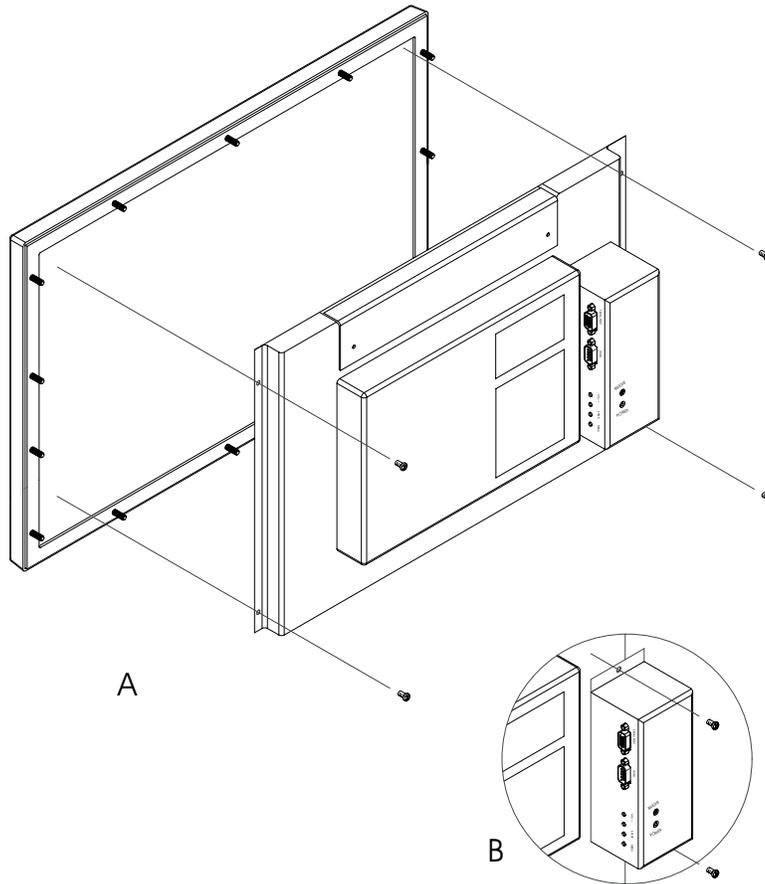

Figure 3. Opening the unit
1. Lay the unit facedown, and remove the four screws holding front panel to the rear assembly (see figure 3).
1. Lay the unit facedown, and remove the two screws holding the controller box to the rear assembly (see figure 3).